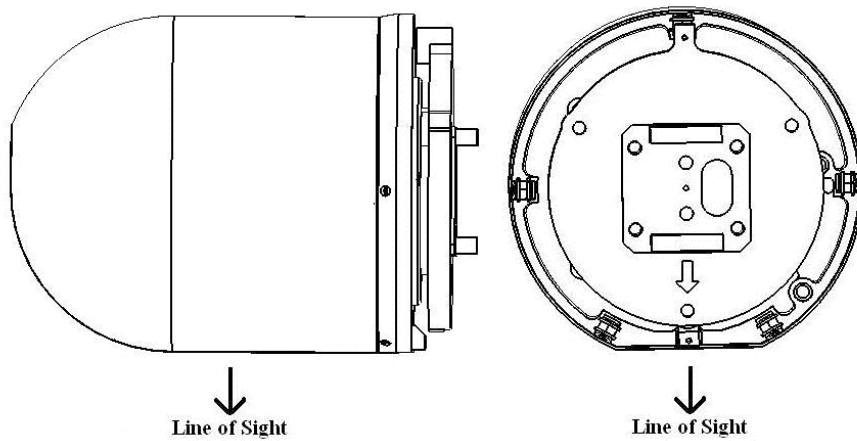

Figure 2 : STOW Mode Line of Sight
2. The line of sight in STOW mode is depicted in Figure 2 :